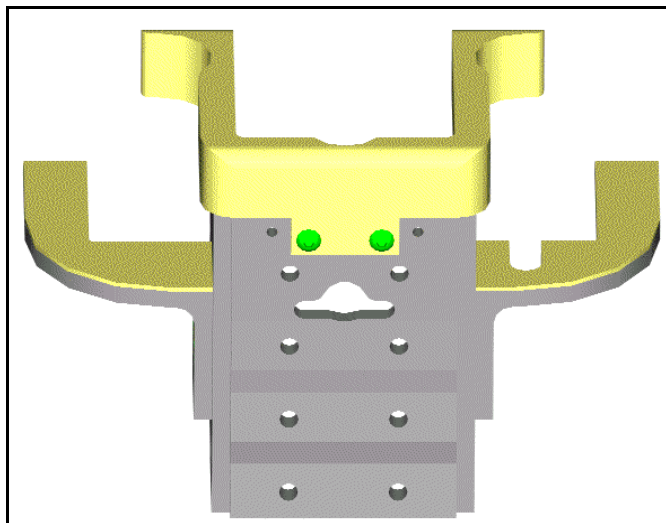

Figure 8.22- Neck shroud support installed
23. Position the Neck Shroud Support (T1SHM048) around the top of the upper thoracic spine box and secure it, using two #10-32 x 1/2" BHSCS {1/8}, as shown in **Figure 8.22**.